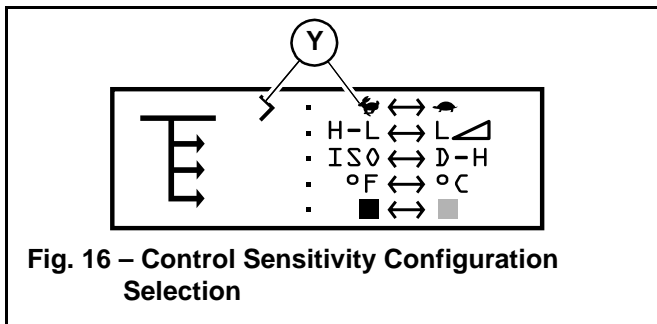

Fig. 16 – Control Sensitivity Configuration Selection
2. Press and release the interface button until the selection caret points to the / control sensitivity selection (Y, Fig 16). Press and hold the interface button for 5 seconds.